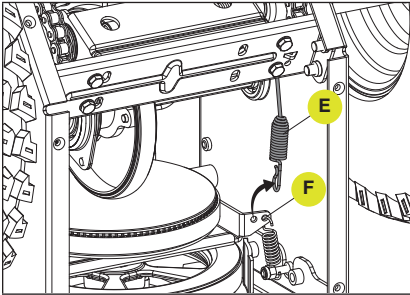

Figure 53
5. Unhook the spring (E) from the drive plate (F). (Fig. 53)